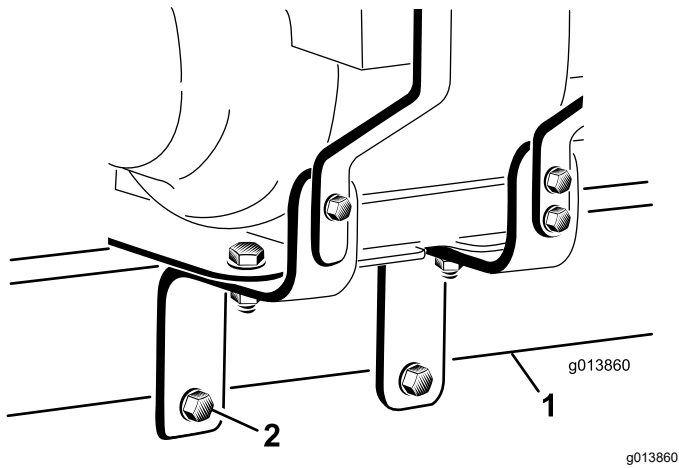

Figure 7
- Insert the 2 bolts (1/2 x 5 inches) through the engine mount bracket holes, ensuring that a flat washer is fitted against each outer face of the engine mount bracket, and ensuring that the bolts pass beneath the bottom of the hitch tube. Hand tighten the 2 nuts (1/2 inch) as shown in Figure 7.